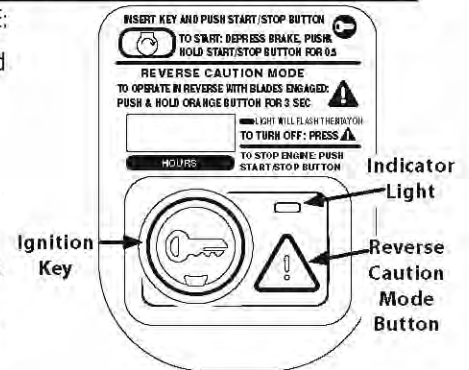

Figure 29
2. Press the REVERSE CAUTION MODE button and hold for 3 seconds. The indicator light will flash for 3 seconds and will stay on when the REVERSE CAUTION MODE is activated. See Figure 29.
3. The indicator light above the REVERSE CAUTION MODE button will be ON while activated. See Figure 29.
4. Once activated (indicator light ON), the tractor can be driven in reverse with the cutting PTO (Blade Engage) in the engaged (ON) position.